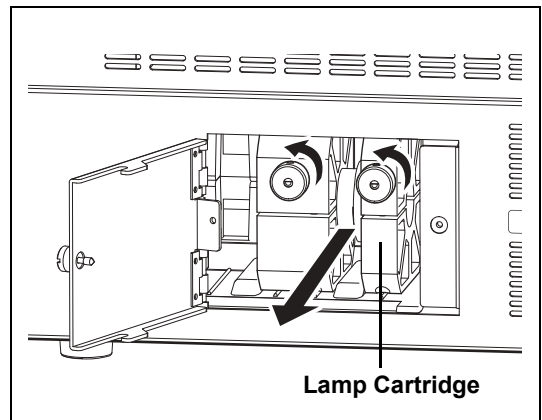

Figure 6.3
- 3 Turn the two screws at the top of the lamp cartridge counterclockwise until the fixed lamp cartridge loosens. (Refer to Figure 6.3.)